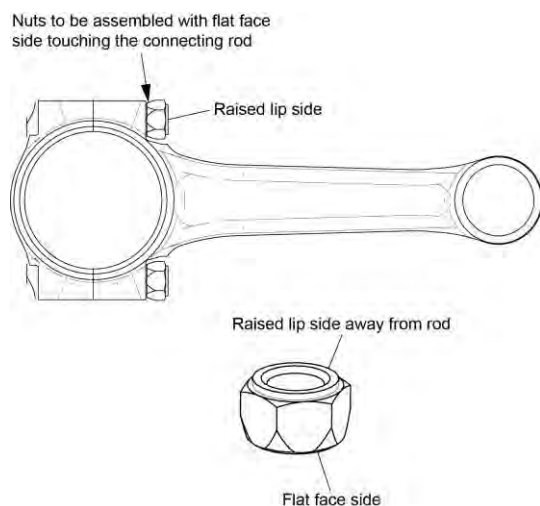
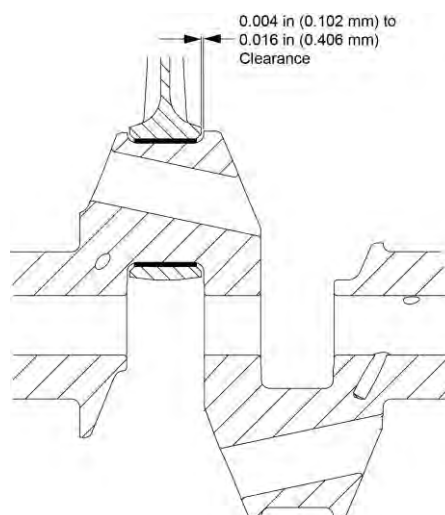

Figure 45
Figure 46
- (9) Install a new nut on each new connecting rod bolt where the flat face of the nut touches the connecting rod as shown in Figure 45.
- (10) Torque the connecting rod bolts per the torque values in the latest revision of Service Instruction No. SI-1458. (Stretch bolts require an initial torque and are then torqued to the correct stretched length.)
- (11) Measure the journal to rod clearance with a feeler gage where shown in Figure 46. The clearance is to be 0.004 to 0.016 in. (service). Compare the results to the measurements previously recorded.